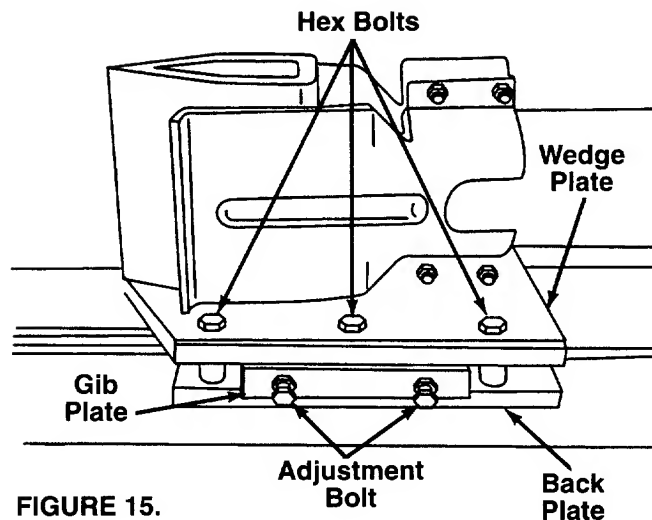

FIGURE 15.
As normal wear occurs, periodically adjust the bolts on the side of the wedge plate as follows to eliminate the excess space between the wedge plate and the beam. See figure 15.
1. Remove the center bolt on top of the wedge plate. Slide the gib plate out. See figure 15.